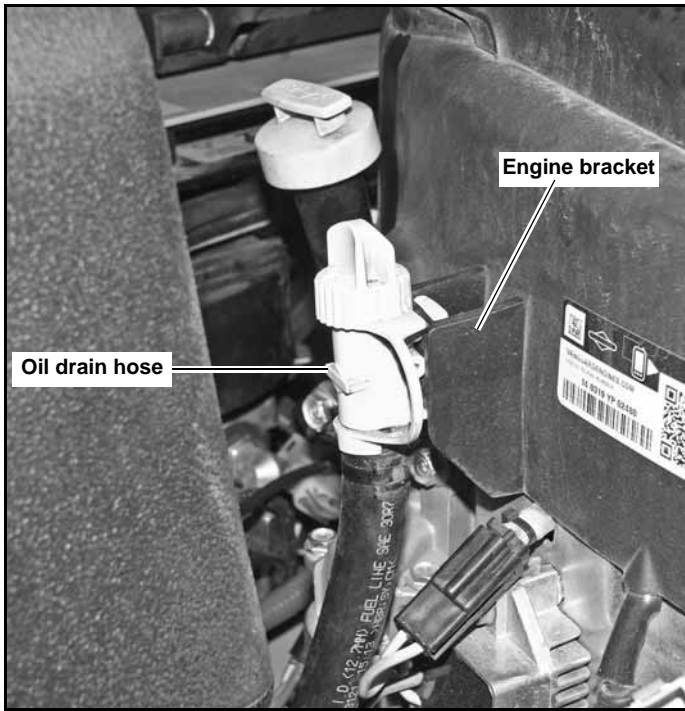
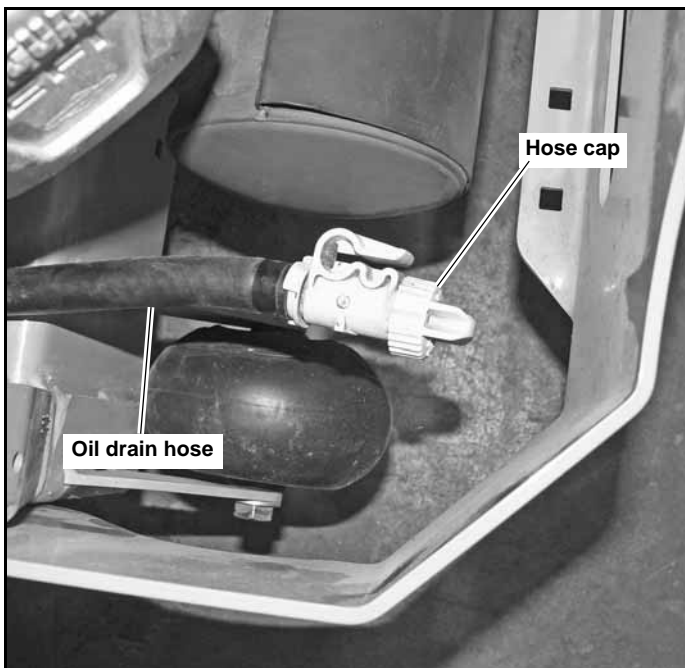

Figure 5-2
Figure 5-3
1. Locate the oil drain hose on the engine. Figure 5-2
2. Un-clip the end of the oil drain hose from the engine bracket and route it towards the rear of the mower frame. Figure 5-2 & Figure 5-3
4. Twist the cap on the end of the hose and pull the cap open to allow the oil to drain. Allow 10 minutes for engine oil to adequately drain. Figure 5-3